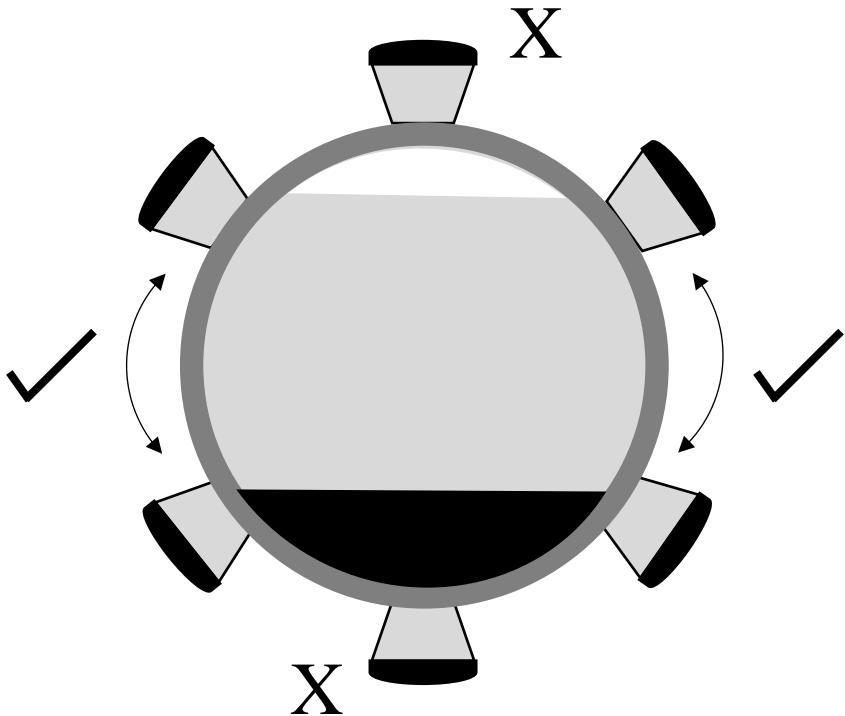

Figure 2: Recommended positioning on horizontal pipes
- On horizontal pipes, it is preferable to mount *Flow Pulse* between 1 o'clock and 5 o'clock position on the pipe to avoid air pocket on top or sedimentation on the bottom, as illustrated in Figure 2: